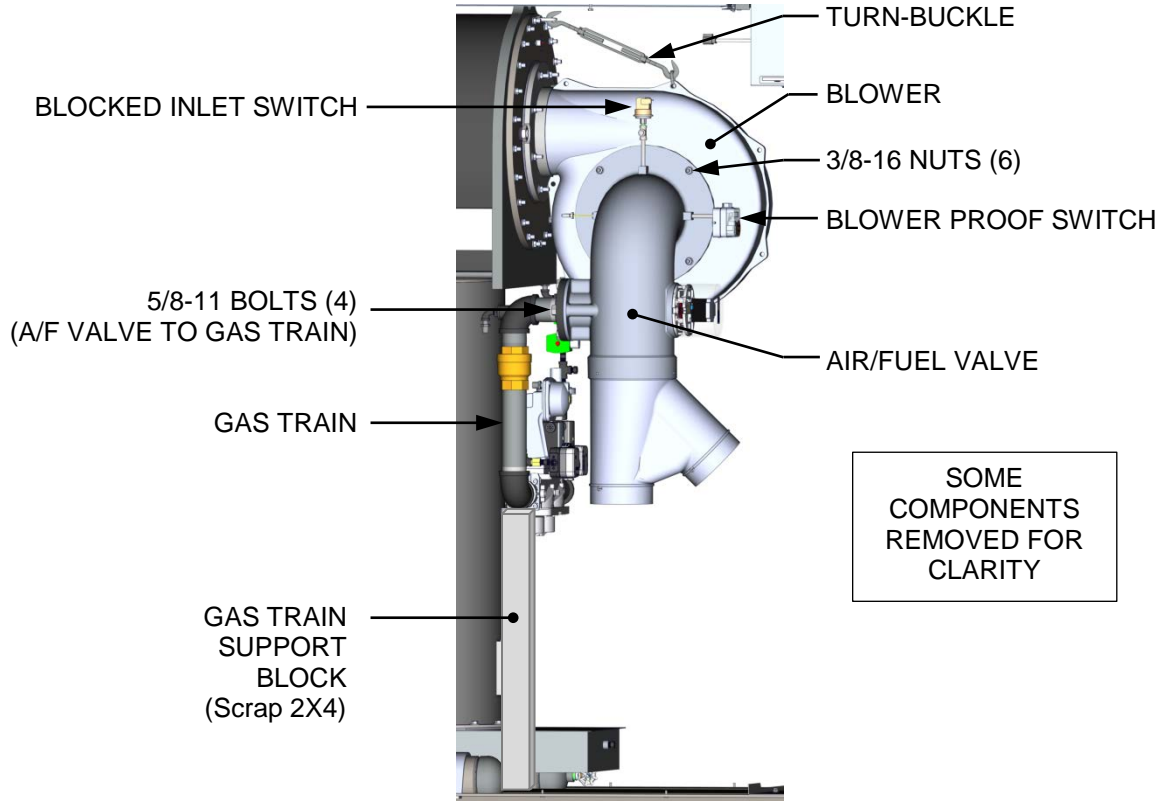

Figure 7-4b: Burner Assembly Mounting Details – Left Side View
15. Disconnect the wires from the Blower Proof and Blocked Inlet switches (see Figure 7-4b).
17. Place a support block of any appropriate material (such as a scrap 2X4 cut to length) under the gas train (see Figure 7-4b), and then remove the four 5/8-11 bolts & washers connecting the gas train to the Air/Fuel valve.